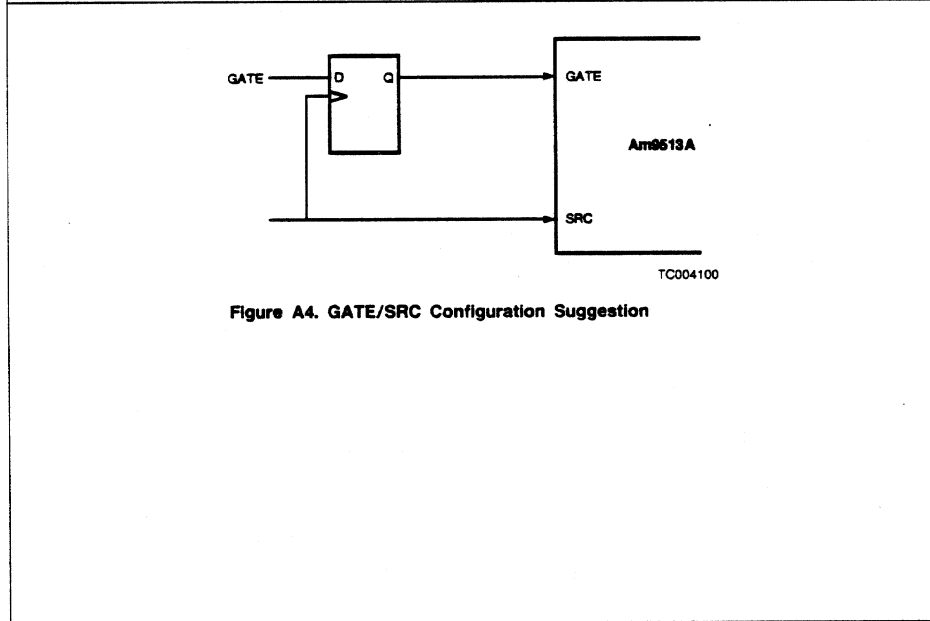

Figure A4. GATE/SRC Configuration Suggestion
- 16) Timing parameters TGVH & TEHV must not be violated; Figure A4 shows a method.